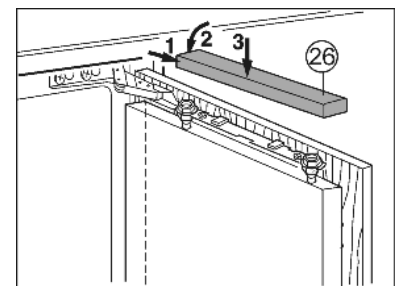

Fig. 22
- ▶ Attach top cover Fig. 22 (26) and snap into place.